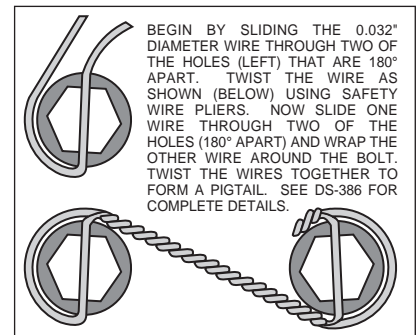
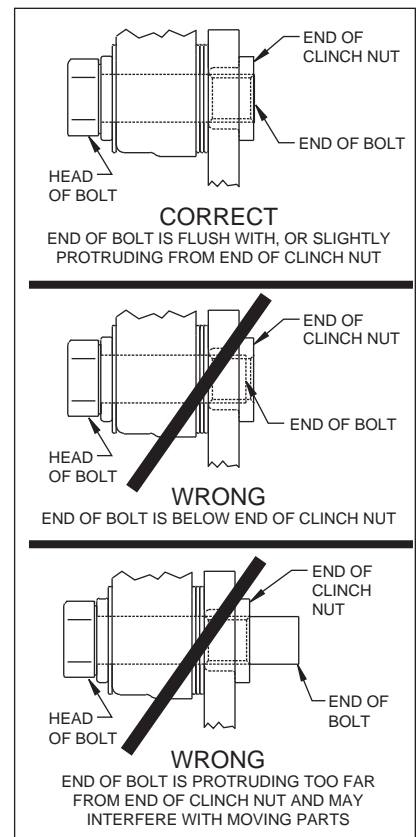

Figure 4. Safety Wire Diagram
Figure 5. Clinch Nut Engagement Diagram
Assembly Instructions (numbers in parenthesis refer to the part list/diagram on the preceding page): **CAUTION:** All mounting bolts must fully engage insert nuts. Be sure to check that all bolts are either flush or protruding through flanged side of insert nut after shimming, Figure 5.
- With the slot pointing upward and the mounting ears pointing towards the rear of the vehicle, install the caliper mounting bracket (1) to the housing flange using the stock Original Equipment Manufacturer (OEM) bolts and nuts. Stock OEM hex nuts that retain the bracket (1) should be on the wheel side of the bracket. Apply red *Loctite*® 271 to the stock OEM bolt threads and torque to OEM specifications. **NOTE:** Some brackets act as the bearing retainers, while others help locate the bearing in the axle housing flange. If the stock bearing plates are still on the axle, the caliper mounting brackets (1) should be located between the axle housing flange and the bearing retainer plate. Make sure the heads of the caliper mounting bracket insert nuts are FACING OUTWARD TOWARDS THE WHEEL.
- Bolt the hat (2) to the rotor (3) using washers (4) and bolts (5). Torque bolts (5) to 180 in-lb. Safety wire bolts (5) using standard 0.032 inch diameter stainless steel safety wire as shown in Figure 4. Please refer to Wilwood's data sheet DS-386 (available at www.wilwood.com/Pdf/DataSheets/ds386.pdf) for complete safety wire installation instructions.
- Align the correct hole pattern in the hat (2) with the stud pattern on the axle flange. **NOTE:** Some OEM and after market axles come with stud sizes larger than 0.50" diameter. Verify stud size and have a qualified machine shop drill the hats to the correct size. Slide the hat/rotor assembly (2 and 3) over the wheel studs and against the axle flange face.
- NOTE:** Please reference the caution statement at the beginning of the assembly instructions. WITH THE BLEED SCREWS POINTING UP, mount the caliper (6) over the rotor (3) and onto the caliper mounting bracket (1) using washers (7) and mounting bolts (8). View the rotor through the top opening of the caliper. The rotor should be aligned in the center of the caliper. If not, adjust the caliper by using 0.032 inch shim washers (9), placing them between the caliper mounting bracket (1) and the caliper (6). Add as many shim washers (9) as necessary to achieve the correct alignment. **NOTE:** The end of the bolt must be flush with or slightly protruding from the head of the clinch nut. See Figure 5. Place spare shims (9) between washer and caliper mounting ear to achieve the proper mounting fastener configuration. Always use the same amount of shims on both the top and bottom caliper mounting bolts (8). Apply red *Loctite*® 271 to the mounting bolt threads (8), torque bolts to 30 ft-lb. Safety wire the caliper mounting bolts (8).
- Position the Wilwood disc brake pads (10) into the caliper (6) and fasten with cotter pin (11). Steel backing plate side of brake pad should face the caliper pistons.